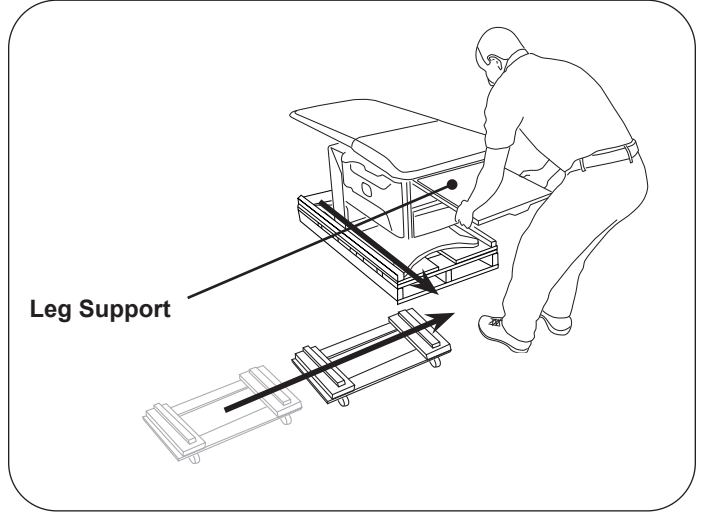

Figure 16. Slide Table off of Pallet
- Use leg support to slide table partially off of pallet. Stop when there is sufficient room to place a furniture dolly beneath base of table. Finish pulling table onto furniture dolly (Figure 16).